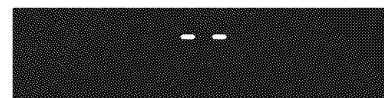

Figure 4
2. Press  to switch between normal sound operation and silent operation mode. If "SP" appears (Figure 3), the control will operate with normal sounds and beeps. If "- -" appears (Figure 4), the control is in the silent operation mode.